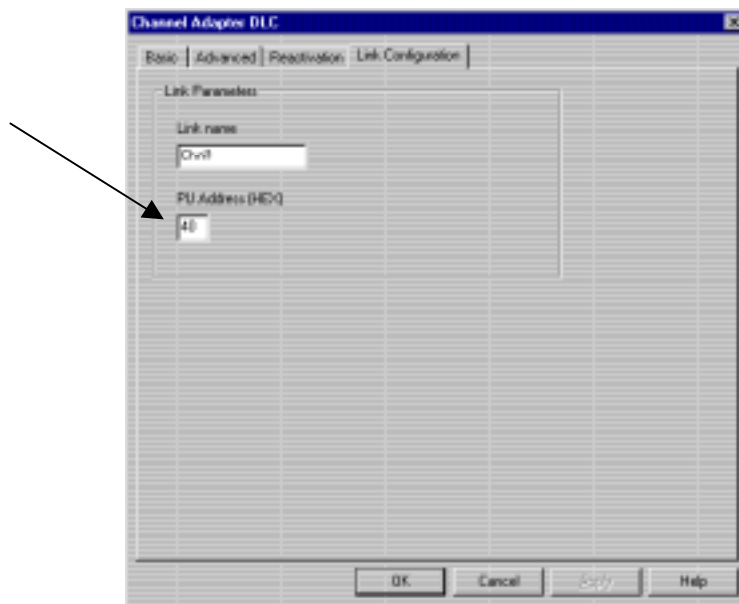

Figure 16-12. Check PU Address
4. Verify that the PU Address matches the address defined in the ESCON configuration and the mainframe IOCP (Figure 16-12).